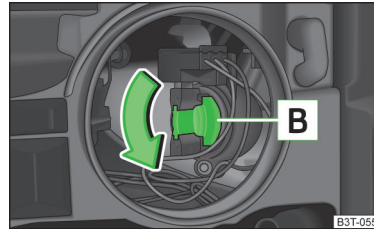

Fig. 201
- Turn the bulb holder **A** » Fig. 201 in the direction of the arrow as far as the stop.